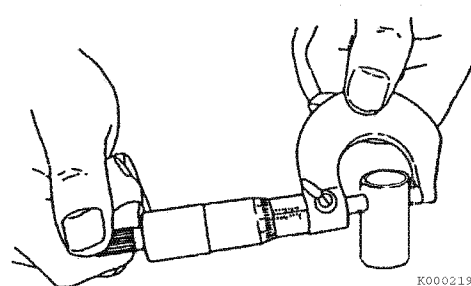

Figure 6-75
2. Measure the outside diameter of the tappet stem (**Figure 6-75, (1)**). Record the measurements. See *Tappet* on page 6-12 for the service limit.